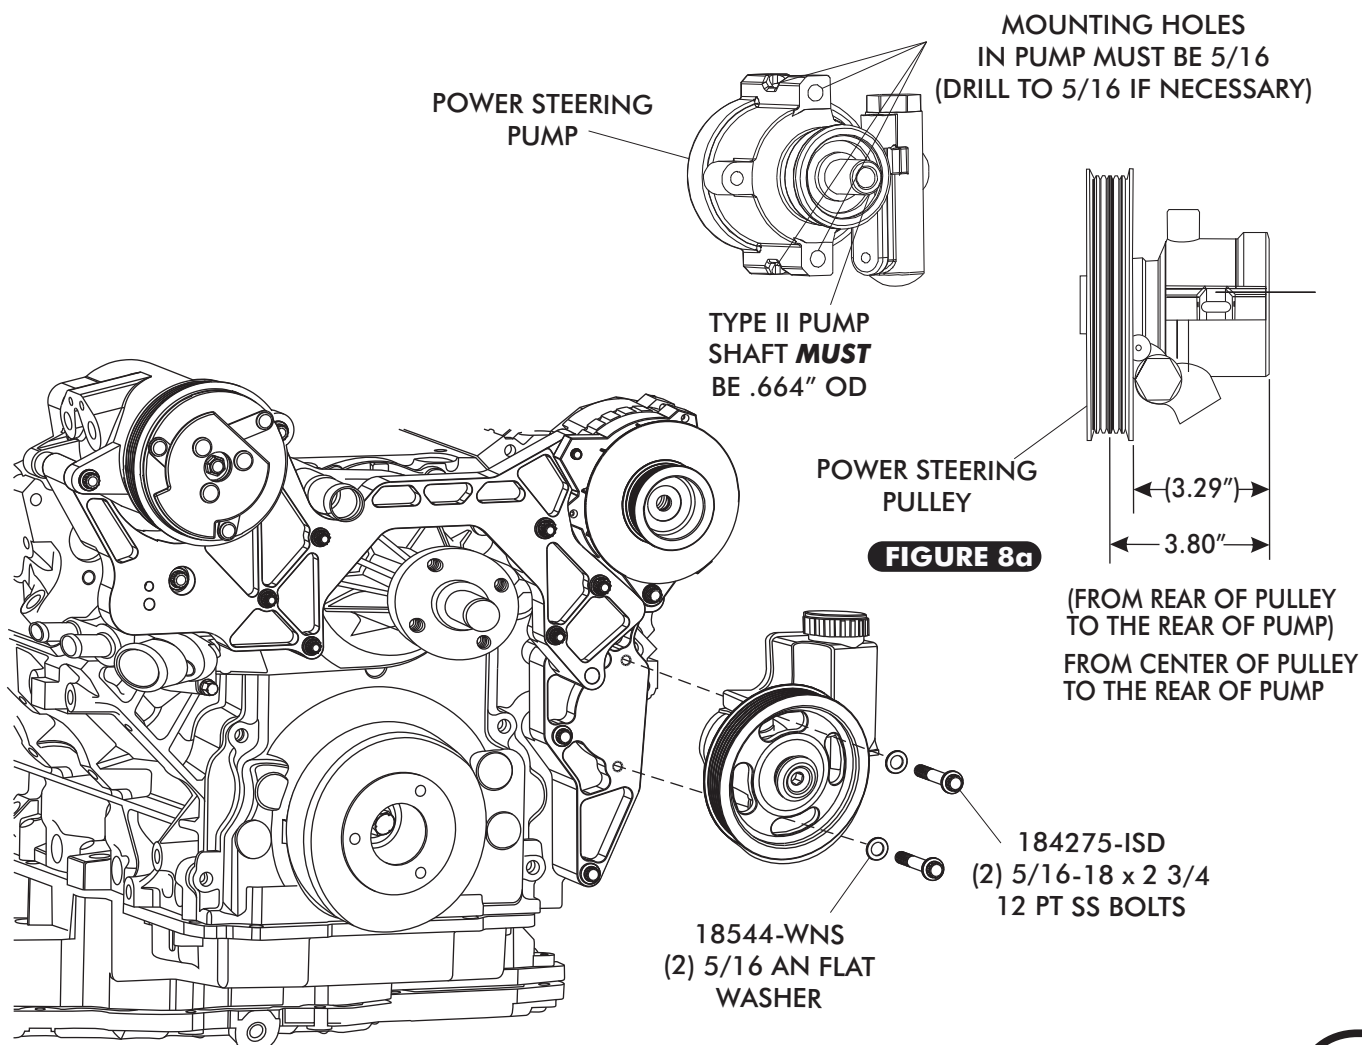

FIGURE 8
- ❑ INSTALL POWER STEERING PUMP USING (2) 5/16-18 x 2 3/4 12 PT SS BOLTS WITH (2) 5/16 AN WASHERS AS SHOWN IN FIGURE 8 BELOW. TORQUE TO 28 LB FT.